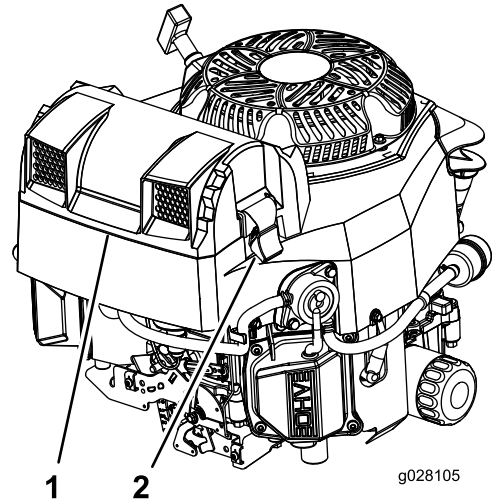

Figure 57
2. Remove the cover to access the air-cleaner elements (Figure 57).
3. Install the cover, and secure it with the latches (Figure 57).